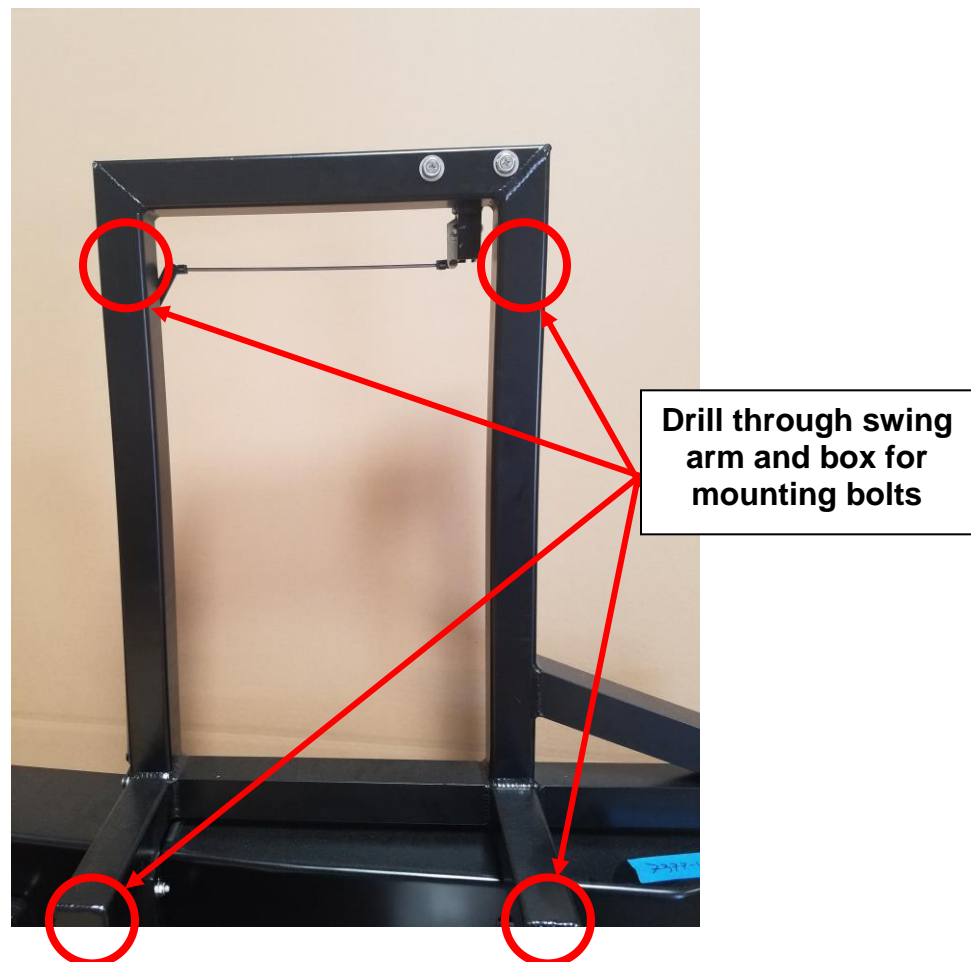

Figure 1. Drill and bolt locations for mounting box
- Two of the holes should be drilled through the bottom of the box (**see Figure 1 for location**).
- The other two holes should be drilled through the back of the box and the swing arm tubing (also seen in Figure 1).